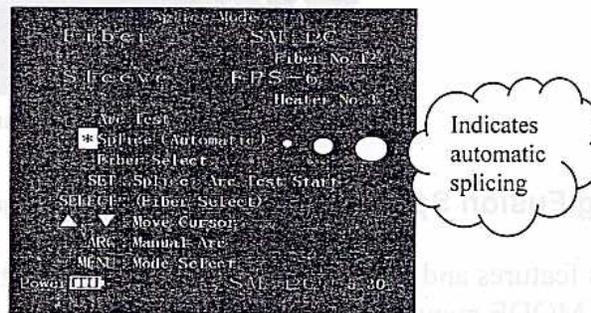

Figure 55. Splicing Mode of Operation
On the SPLICE MODE menu shown in Figure 55, the mode of splicing operation is indicated beside SPLICE in brackets.
5. Press <SELECT> to accept changes. The mode of splicing indicated on the SPLICE MODE menu shown in Figure 55 will change to reflect the new setting.